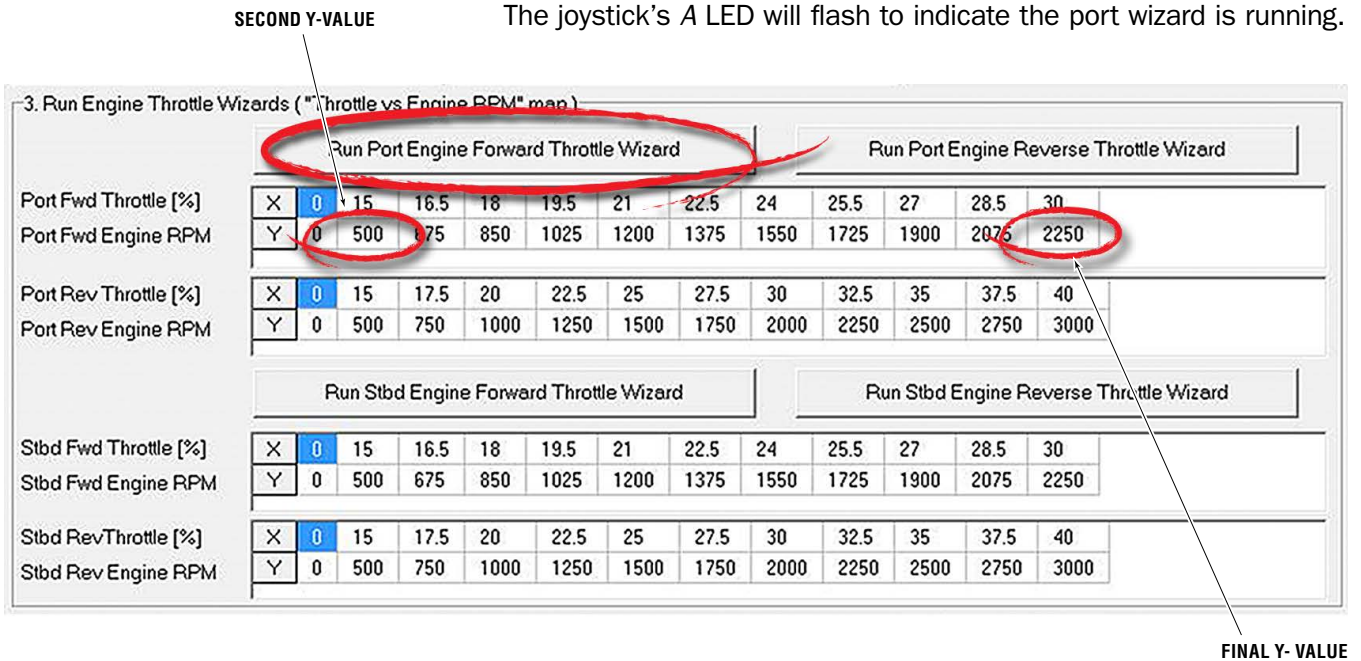

Figure B-9. The engine response configuration wizards are found on the Setup tab.
2. Click **Run Port Engine Forward Throttle Wizard** (see figure B-9).
5. Examine the *second Y-value* (see figure B-9) in the table. If it is more than 100 RPM higher than the engine's in-gear idle RPM, go back to STEP 2 and *decrease* FWD: Port Max Throttle at Idle by 0.5%. Click **Write** if you make a change.